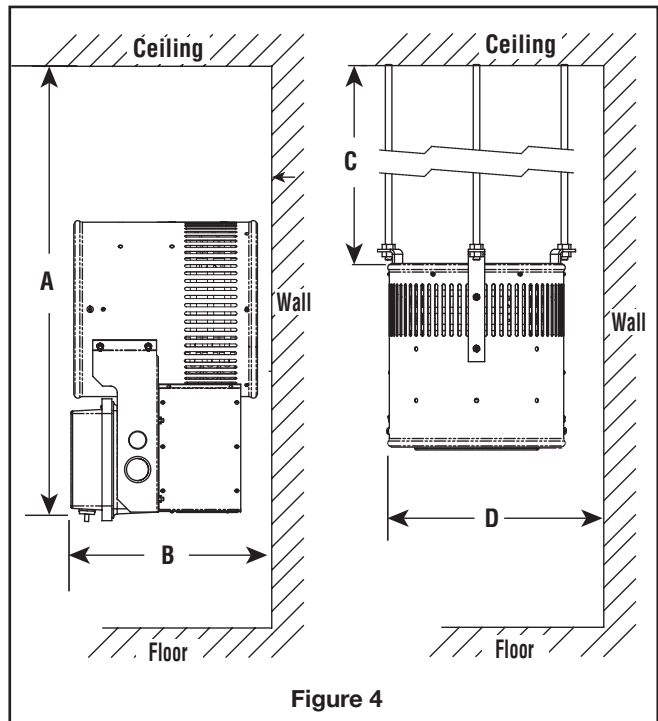

Figure 4
- Figure 4 shows typical installation dimensions meeting minimum requirements.